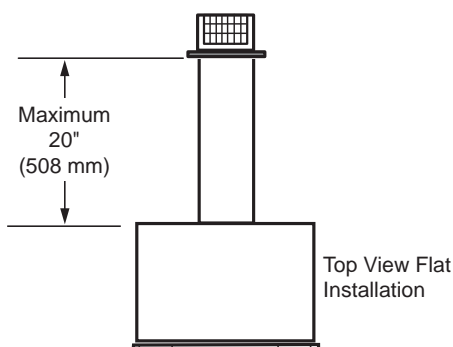

Figure 19 -
- The maximum horizontal distance between the rear of the appliance and the termination is 20" (508 mm). *Figure 19*